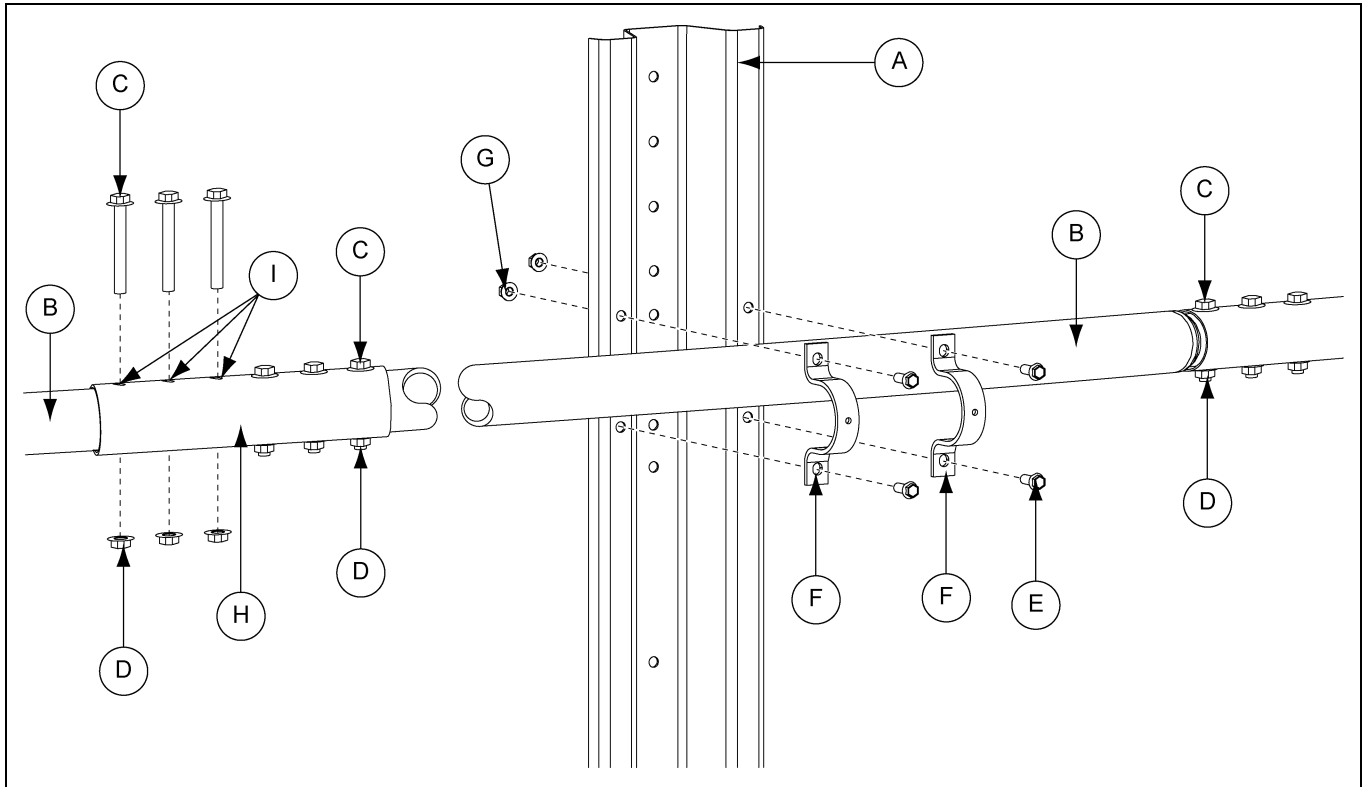

Figure 13B Exploded View of Wind Ring Installed at Upper Portion of Stiffener
5. Slide the wind ring coupling collar (H), aligning the three (3) pre-drilled holes and install flange bolts (C) and hex nuts (D). Field drill the remaining three (3) holes (I) using the wind ring coupling collar (H) as a guide or template. (See Figure 13B on Page 55.)
6. Install the remaining flange bolts (C) and hex nuts (D) and tighten all hardware to the recommended torque specifications. See bolt torque specifications on Page 36.